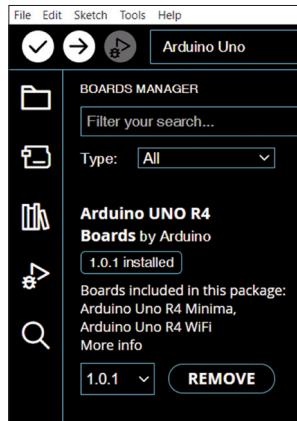

Figure 2.3: Click **INSTALL** to install the Uno R4 boards.
- Search for ARDUINO UNO R4 (Figure 2.3) and click INSTALL to install it. At the time of drafting this book, the version was: 1.0.1.